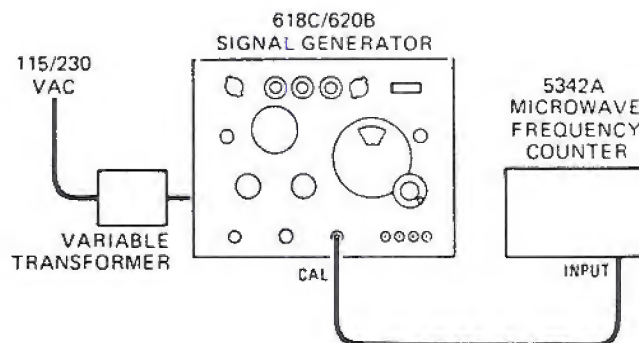

Figure 5-2. Setup for Testing Frequency Accuracy
a. Connect Signal Generator in test setup shown in Figure 5-2.